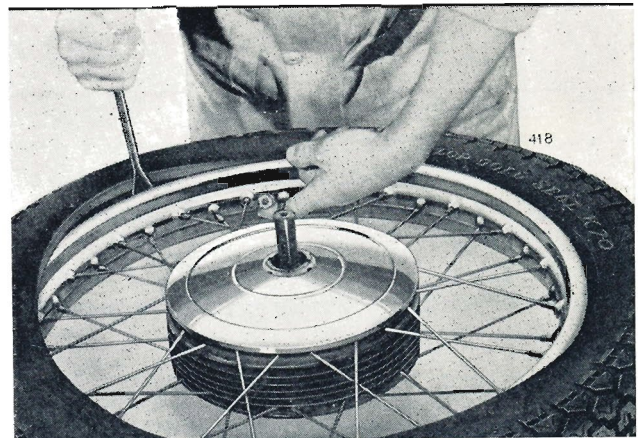

Fig. F21. Refitting the second bead with the security bolt in position
- (4) Partly inflate the inner tube and fit it into the tyre.
- (5) Fit the second bead but keep the security bolt pressed well into the tyre, as shown in Fig. F21, and ensure that the inner tube does not become trapped at the edges.
- (6) Fit the valve stem nut and inflate the tyre.
- (7) Bounce the wheel several times at the point where the security bolt is fitted and then tighten the security bolt nut.